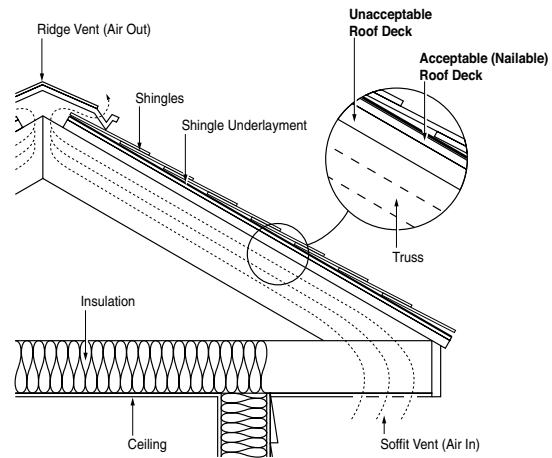
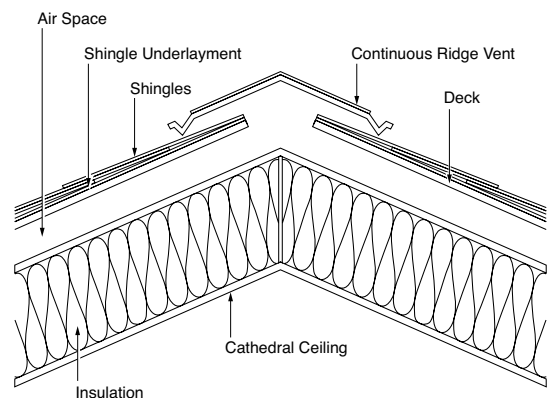

Figure 4-2: An acceptable deck applied over an unacceptable deck.
Figure 4-3: Preferred application method for a cathedral ceiling.
A good rule of thumb is to use a minimum of 9 square inches Net Free Ventilation Area per foot of run, which calculates to about 3/4" space. More ventilation space is almost always better, especially at low slopes and long rafter lengths. (also see figure 4-3).
**decking over an unacceptable deck:** The proper installation of an acceptable deck material over top of the unacceptable material described above is required to achieve an acceptable roof deck surface onto which CertainTeed roofing shingles may be applied. Fastening of the acceptable deck should be done in accordance with instructions provided by the manufacturer of the deck into which fasteners will be driven. (see figure 4-2)
Figures 4-2 and 4-3 are construction schematics depicting examples of roofing systems that provide for isolation of the materials deemed “unacceptable” for direct shingle application and that are designed to provide an adequate surface to apply the shingles.
Figure 4-2 illustrates an application method where an acceptable deck is applied over an unacceptable deck which is properly ventilated beneath. Figure 4-3 illustrates a preferred application method for a cathedral ceiling, incorporating a soffit-to-ridge ventilation space beneath the top nailable deck and above the insulation of an “unacceptable” deck.